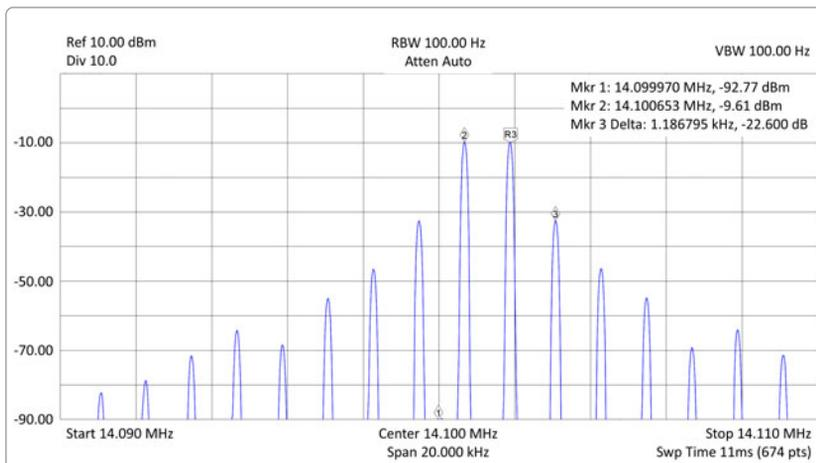
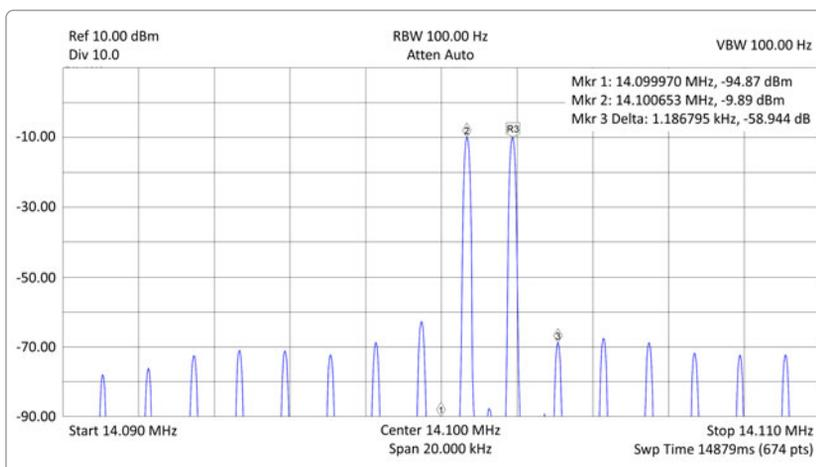

Figure 3. IMD results for 20 metres, with PureSignal OFF – 10 Watt output.
Figure 4. IMD results for 20 metres, with PureSignal ON – 10 Watt output.
**Figure 3** shows the IMD level on the 20-m band with PureSignal turned off, while **Figure 4** shows the level with PureSignal turned on.